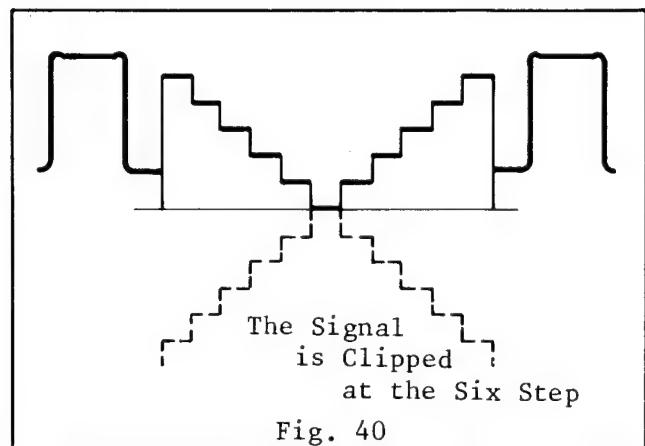

Fig. 40
3. Adjust the gamma reference voltage control, VR307, so that the signal is clipped at the six step from the bottom as shown in Fig. 40.
4. Then, connect the oscilloscope to the connector P306-pin (1) and observe the NTSC signal at H. rate.